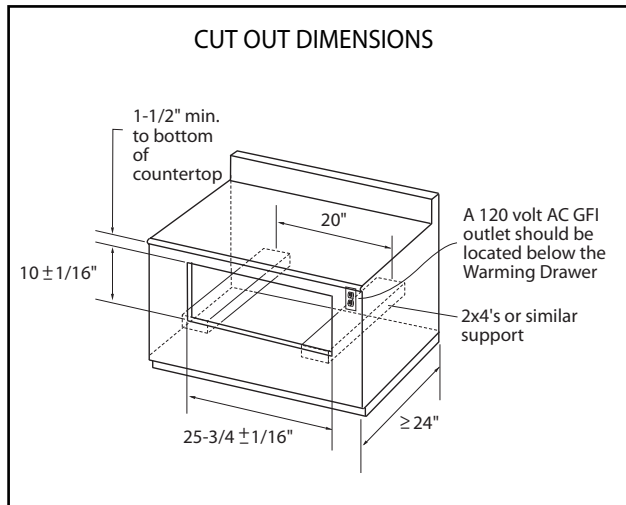

Fig. 02
The cabinet depth from the outer edge of the face frame to the inside back of the cabinet or wall should be at least 24" (see Fig. 02).
**The floor of the opening should be constructed of plywood strong enough to support the weight of the oven (or use 2x4 constructions - see fig. 02)